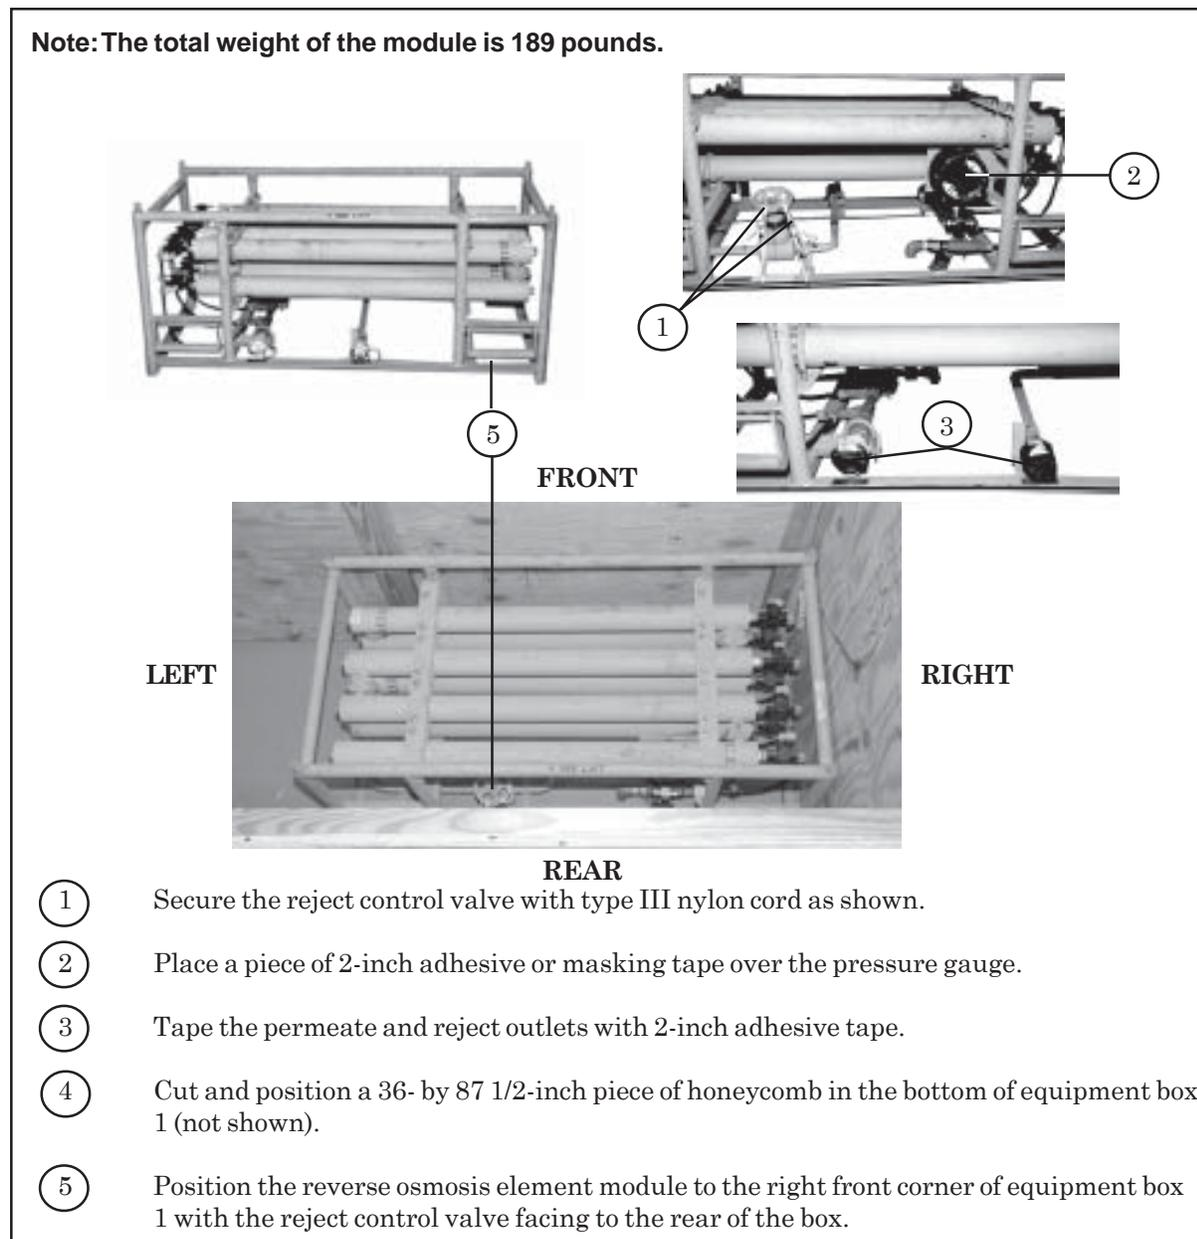

Figure 2-8. Reverse Osmosis Element Module Prepared and Stowed
- a. **PREPARING REVERSE OSMOSIS ELEMENT MODULE.** Prepare the reverse osmosis element module, and stow in the container as shown in Figure 2-8.